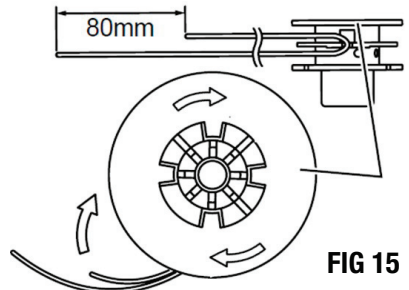

FIG 15
## LINE REPLACEMENT (FIG 15)
- Hook the center of new nylon cord into the notch in the center of the spool, with one end of the cord extending about 3-1/8" (80mm) more than the other. See Fig 15.